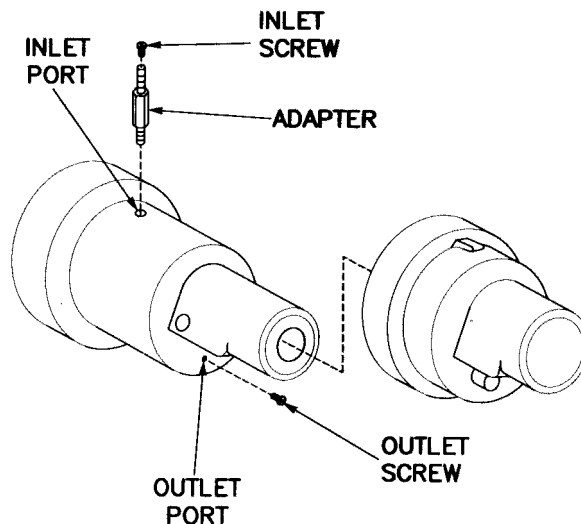

Figure 3-11 M26/M27 Boresight Device
- a. M26/M27 Boresight (fig. 3-11).